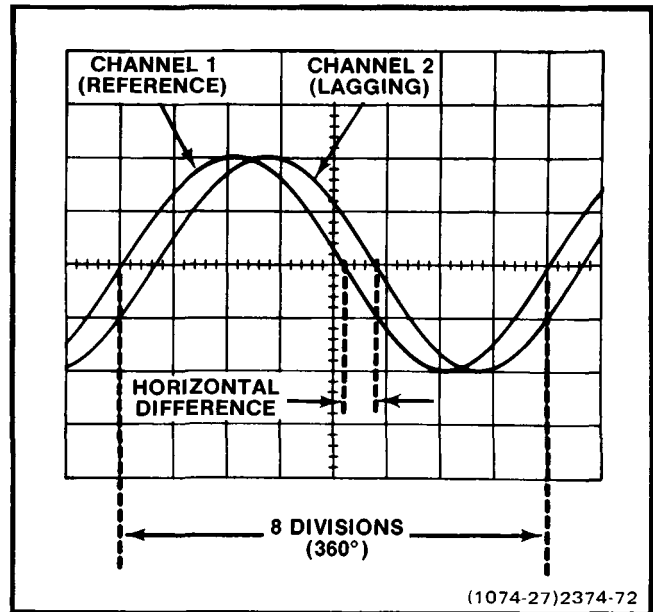

Figure 2-17. Measuring phase difference.
8. Turn the SEC/DIV VAR control until one cycle of reference signal (Channel 1) occupies exactly 8 divisions between the second and tenth graticule lines (see Figure 2-17). Each division of graticule represents 45° of the cycle ($360^\circ \div 8 \text{ divisions} = 45^\circ/\text{division}$). The horizontal graticule calibration can be stated in terms of degrees as $45^\circ/\text{division}$.
EXAMPLE: Assume a horizontal difference of 0.6 division with a horizontal graticule calibration of $45^\circ/\text{division}$ as shown in Figure 2-17. Using the formula: